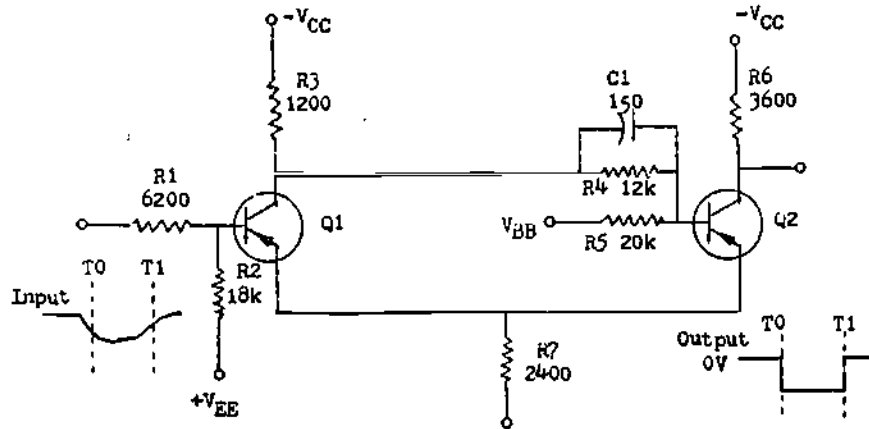

Figure 16
Questions 19 through 25, refer to Figure 16.
20. Before the input signal is applied to the figure 16 circuit, Q1 is (cutoff, saturated) and Q2 is (cutoff, saturated).